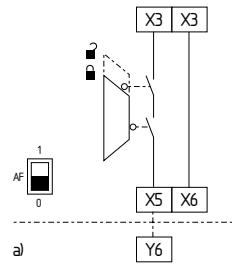

Fig. 8
**Start-up test (see fig. 8 and 9)**